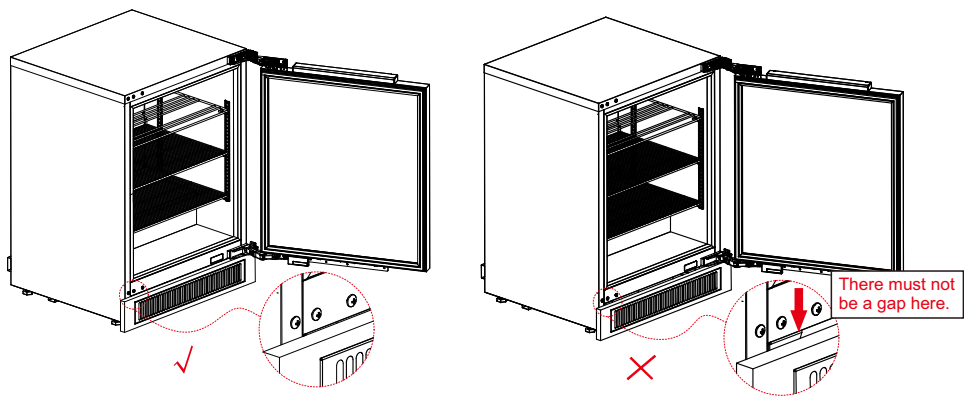

Figure 11: Ensure no access to the air intake or exhaust area from the top of the skirting board then you must remove the standard appliance front grille.
**CAUTION!** When using an installation that makes use of the Grille Insert accessory, care must be taken to ensure that there is no gap left between the rear of the skirting board and the front of the appliance body. The user should not be able to probe or otherwise gain access to the air intake / exhaust of the appliance. See Figure 11 below.